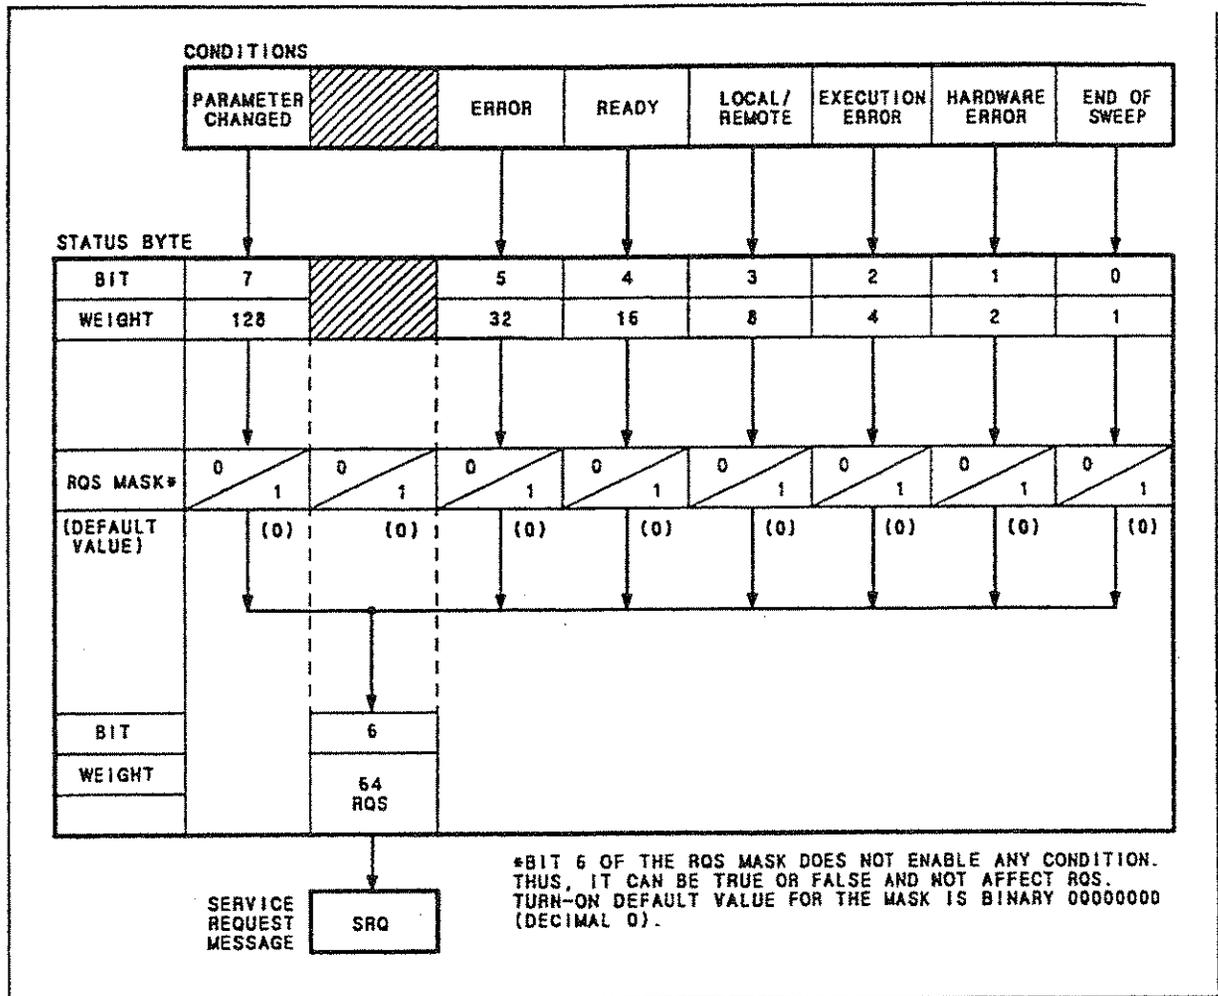

Figure 1-6. The Status Byte and RQS Mask.
**RQS MASK.** The RQS mask is an 8-bit byte that you can set to define which bits of the Status Byte will be allowed to cause a service request. (See Figure 1-6.) Bits 0 through 5 and 7 of the Status Byte are logically ANDed with bits 0 through 5 and 7 of the RQS mask byte. If the resultant value is not equal to zero, the Signal Generator sets bit 6 of the Status Byte true, which sends a Service Request (SRQ) message to the system controller (SRQ bus line true).